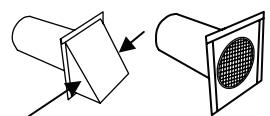

Figure 3
**Step 2:** Remove the hood of the air tube by tapping on both sides of the hood with a hammer until it comes loose leaving the tube with a square flange and screen. (Figure 3)